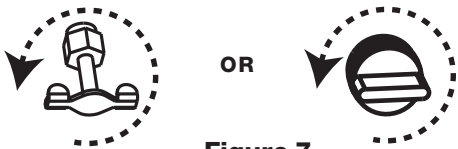

Figure 7
1. Open the fuel shut-off valve. Turn counter clockwise until the valve stops. See Figure 7.